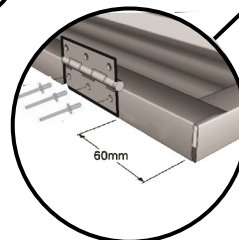

fig.2
- Attach hinges to door side flashing using rivets provided. Ensure hinge is flush with back of door, and 60mm in from each end as per fig.2.